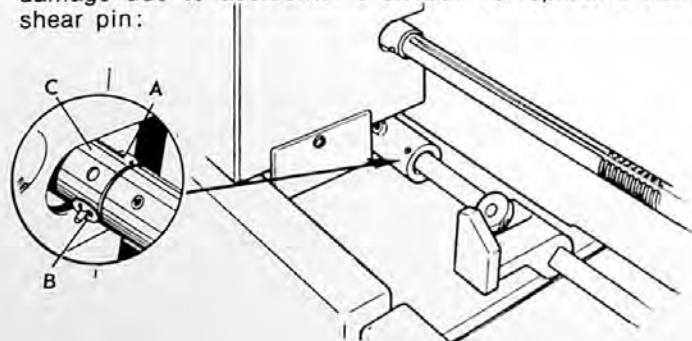

FIGURE 19
1. Remove head end (A, figure 19) and retainer end (B) of broken shear pin from coupling (C).